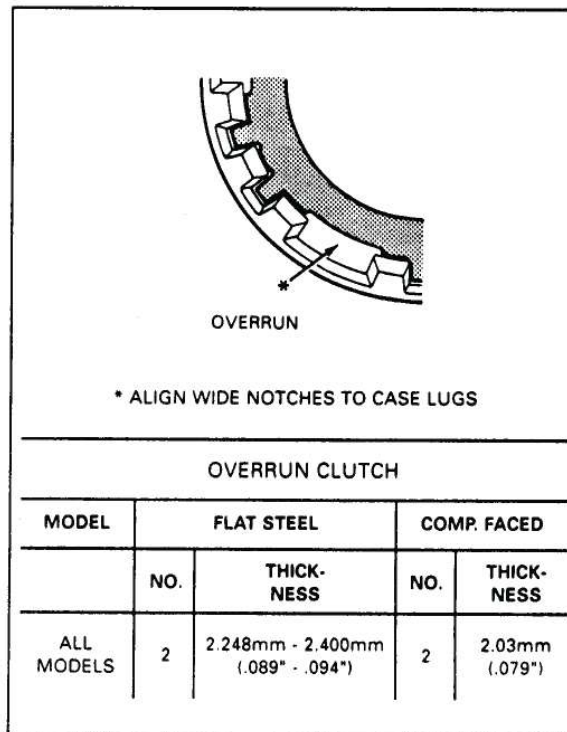

Figure 93
3. Make sure the the teeth on the plate are between the legs on the piston. (See Figure 93).
5. This clutch pack requires two steel plates and two friction plates on all models as shown in chart (Figure 93). DO NOT INSTALL ANY MORE THAN THIS!